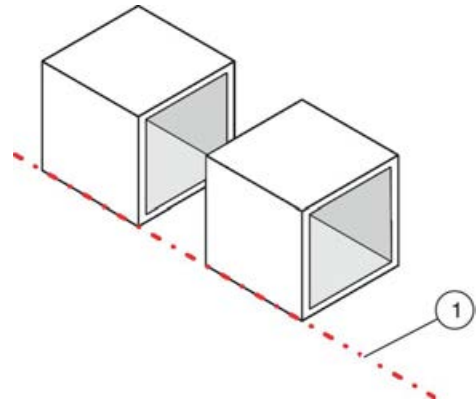

Fig. 14: Aligning AHU casing units
- 3 ▶ Align the AHU casing units so that they are flush with one another (Fig. 14 /1).